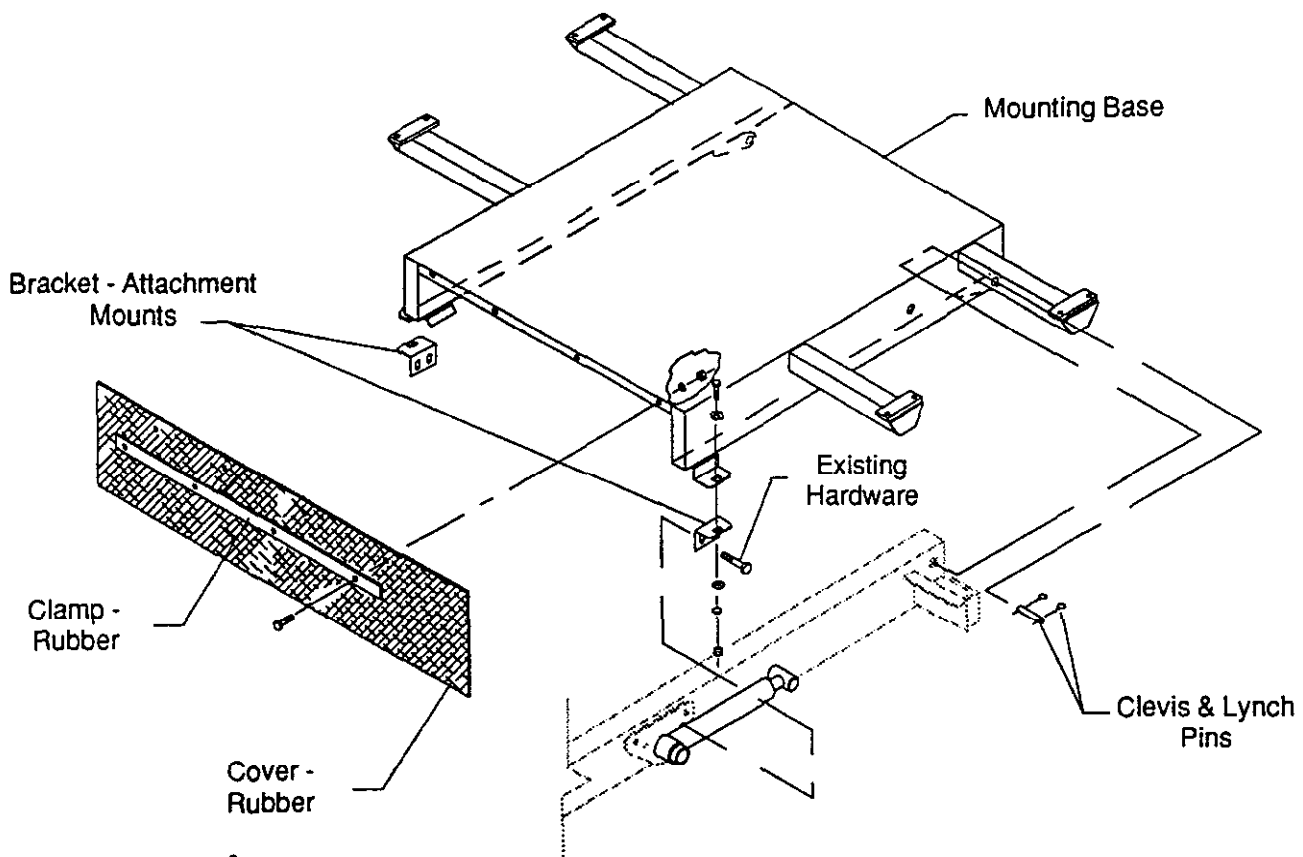

Figure 1
ATTACHING TOPDRESSER BASE TO WORKMAN (Fig. 1)
1. Attach both Bracket Attachment Mounts (92-2667) to both sides of the Workman as shown in Fig. 1. Attach with bolts and nuts already in the frame but do not tighten.
2. Set the Mounting Base (92-4351) of the topdresser on the Workman as shown in Fig. 1.
5. Attach the Rubber Cover to the front of the base using the Clamp-Rubber as shown in Fig. 1. Secure using the 1/4" x 1" bolts.